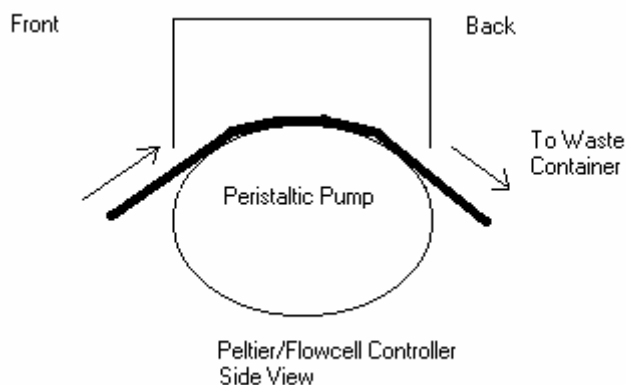

Figure -22 Peltier/Flowcell Controller Side View
Step 13 Connect the tubing from the outlet connector of the Flow-Thru Panel to the Peltier/Flowcell Controller (Figure-22). Push the tubing into one of the two locking